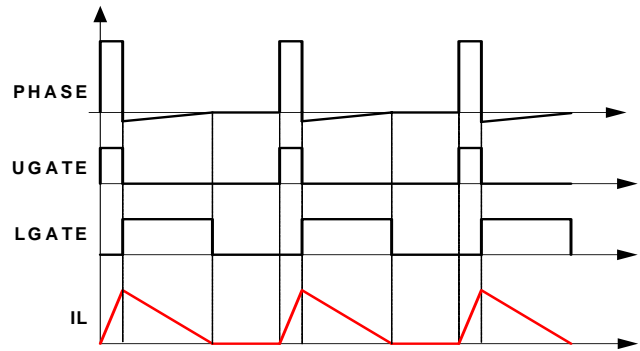

FIGURE 10. DIODE EMULATION
The ISL6267 can operate in diode emulation (DE) mode to improve light-load efficiency. In DE mode, the low-side MOSFET conducts when the current is flowing from source to drain and does not allow reverse current, thus emulating a diode. As Figure 10 shows, when LGATE is on, the low-side MOSFET carries current, creating negative voltage on the phase node due to the voltage drop across the ON-resistance. The ISL6267 monitors the current by monitoring the phase node voltage. It turns off LGATE when the phase node voltage reaches zero to prevent the inductor current from reversing the direction and creating unnecessary power loss.
If the load current is light enough, as Figure 10 shows, the inductor current reaches and stays at zero before the next phase node pulse, and the regulator is in discontinuous conduction mode (DCM). If the load current is heavy enough, the inductor current will never reach zero, and the regulator is in CCM, although the controller is in DE mode.